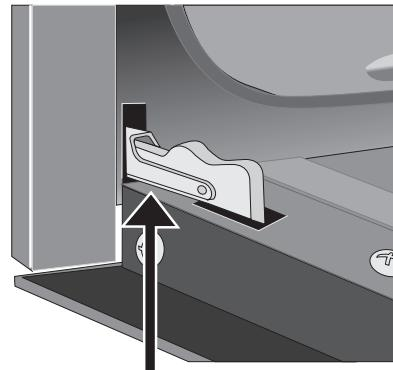
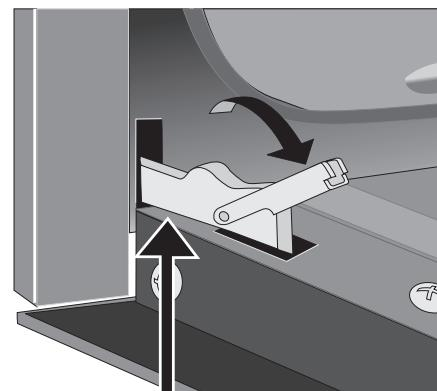

Figure 25: Door hinge locked
Figure 26: Unlocking door hinge
2. Pull up the lock located on each hinge support toward front of the oven until the lock stops. You may have to apply a little upward pressure on the lock to pull it up (Figure 25 and Figure 26).